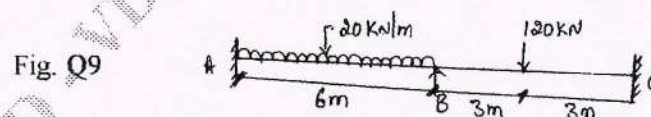

Fig. Q9
- 9 Analyze the beam shown in Fig. Q9, by Stiffness Matrix method. Draw Bending Moment diagram. (20 Marks)